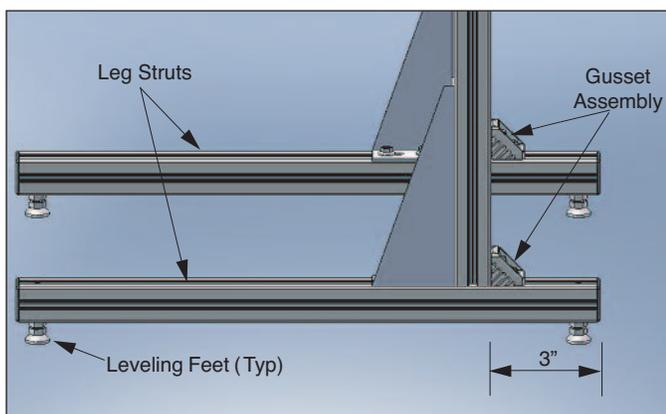

Fig. 4: Leg Assembly
- Install Gussets on the top of each Leg Strut as shown in Figure 4. The edge of the Gusset should be 3" from the rear of the Leg Strut. Install a T-Bolt and nut through each Gusset and into the channel of the Leg Strut. Tightening the nut will cause the bolt to turn clockwise 90°. Tighten the nut and confirm that the T-Bolt rotated 90° and is fully engaging the channel of the strut.
- Attach each Leg Strut to the bottom of the Wall Frame assembly as shown in Figure 4. Install a T-Bolt and nut through each Gusset and into the channel of the Long Strut of the Wall Frame. Tightening the nut will cause the bolt to turn clockwise 90°. Tighten the nut and confirm that the T-Bolt rotated 90° and is fully engaging the channel of the strut.